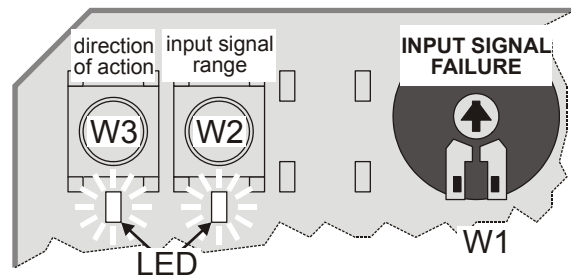

Fig. 1. Pushbuttons and potentiometer (default positions)
1) Factory setting: can be reversed by pressing the left-hand pushbutton (W3) located on the PCB (see Fig. 1 below).
The direction of action can be reversed by pressing the left-hand pushbutton (W3) located on the printed circuit board (see Fig. 1). If the corresponding LED is lit, this indicates that the actuator stem will retract at a control signal of 0(2) Vdc (factory setting); if it is dark, the actuator stem will extend at a control signal of 0(2) Vdc.
The range of the analog input signal Y can be changed by pressing the right-hand pushbutton (W2) located on the printed circuit board (see Fig. 1). If the corresponding LED is lit, this indicates that the actuator is set for 0...10 V operation (factory setting); if it is dark, the actuator is set for 2...10 V operation.
Using the potentiometer (W1) located on the printed circuit board (see Fig. 1), the actuator can be adjusted such that in case of a signal input failure (e.g. a broken wire), the actuator will run to any pre-configured position between 0% and 100%. The factory setting is with the actuator stem in the central position (50%).